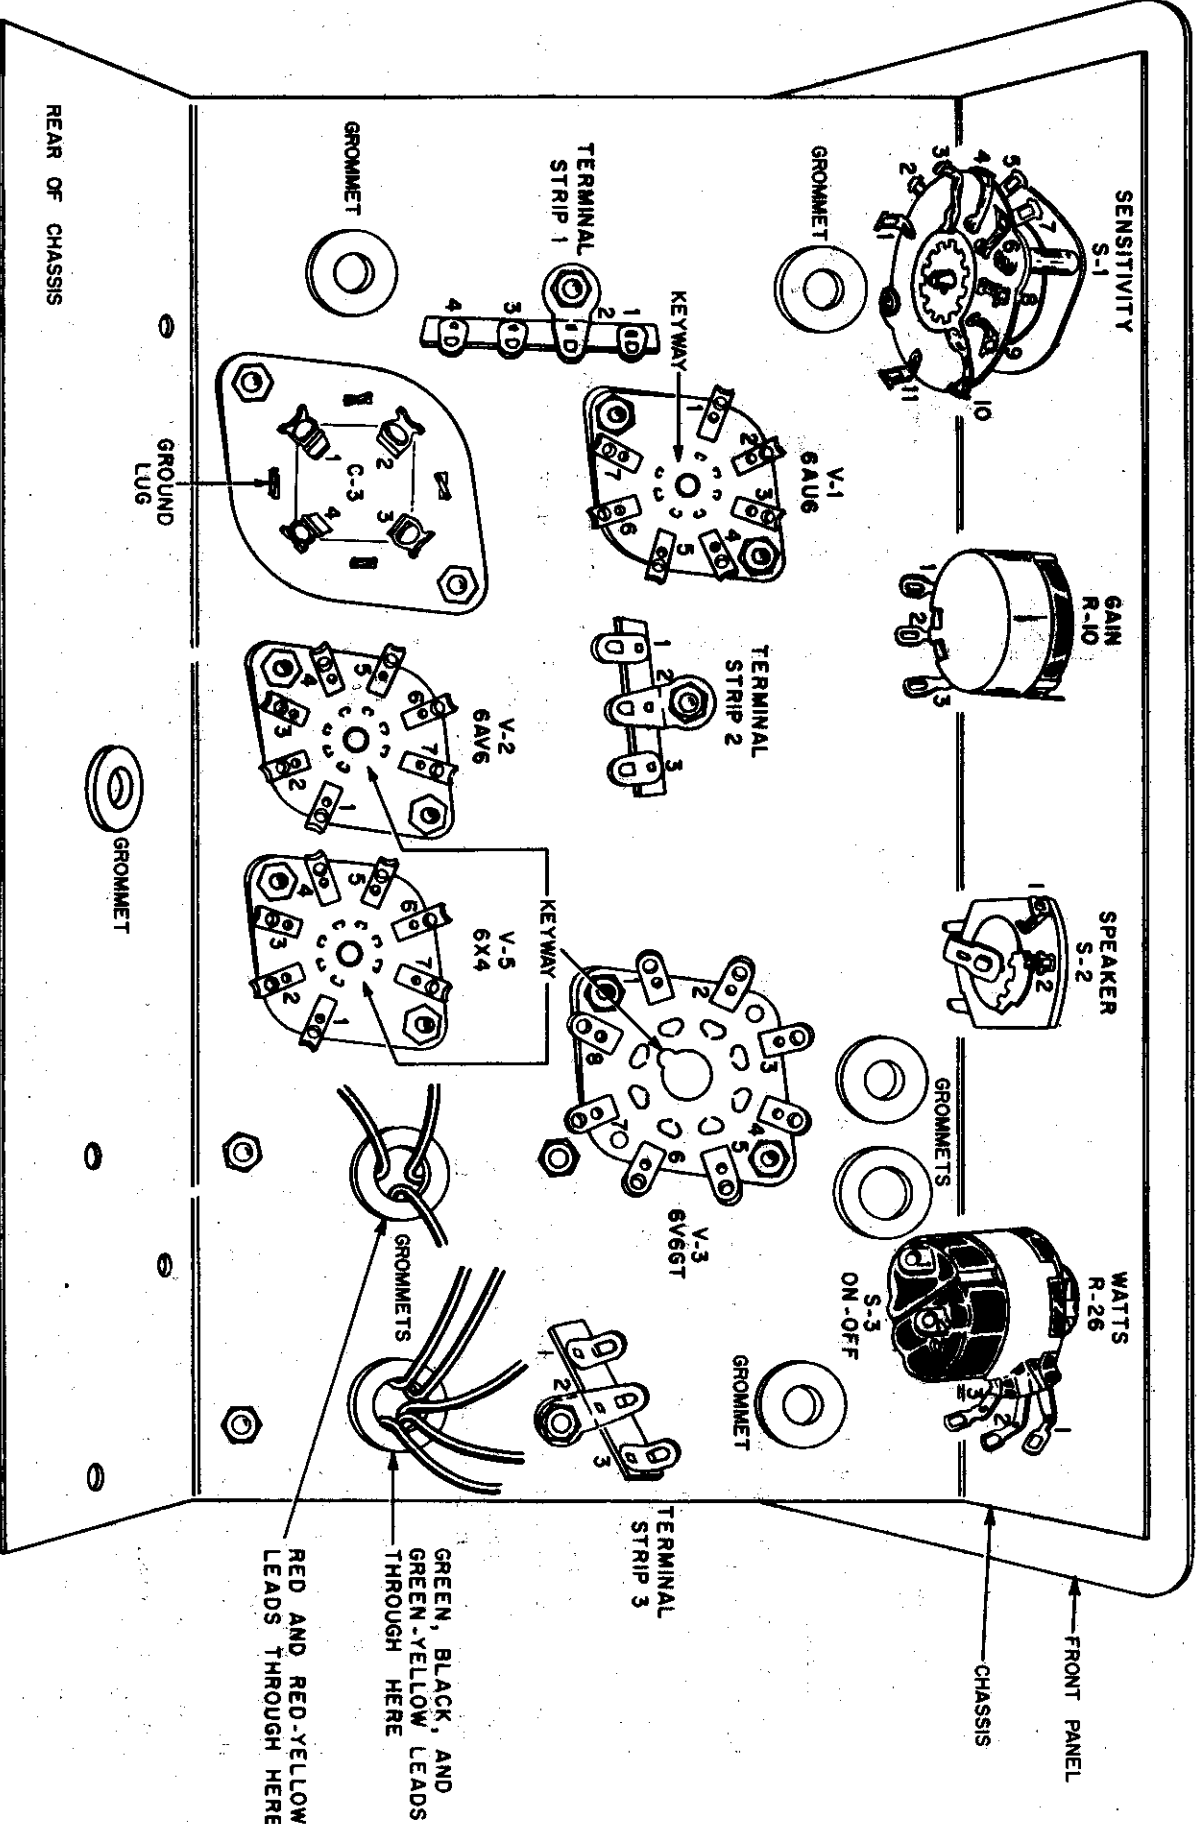

FIGURE 1. HOW TO MOUNT PARTS INSIDE THE CHASSIS
SEE FIGURE 1.
✓ From the inside of the chassis, mount two of the small 7-pin wafer-type sockets for V-2 and V-5, as shown in Figure 1. The keyway, or wide space between two of the pins, must be toward the upper right. Use two of the small machine screws and nuts to mount each socket.
- (✓) From the inside of the chassis, mount the remaining 7-pin socket for V-1, as shown in Figure 1. The keyway must be toward the lower left. Use two small machine screws and nuts to mount the socket.
- (✓) From the inside of the chassis, mount the large 8-pin socket for V-3, as shown in Figure 1. The keyway, the notch in the large center hole, must be toward the lower left.
- (✓) Mount the Speaker Switch (S-2) in the hole next to R-10. Use the same method that was used to mount the two previous controls. Position the terminals as shown in Figure 1.
- (✓) Mount T-2 in position with four machine screws and nuts. From the inside of the chassis, mount terminal strip 3 (TS-3), a 3-terminal strip, on the right front mounting screw. Position the terminal strip as shown in Figure 1.